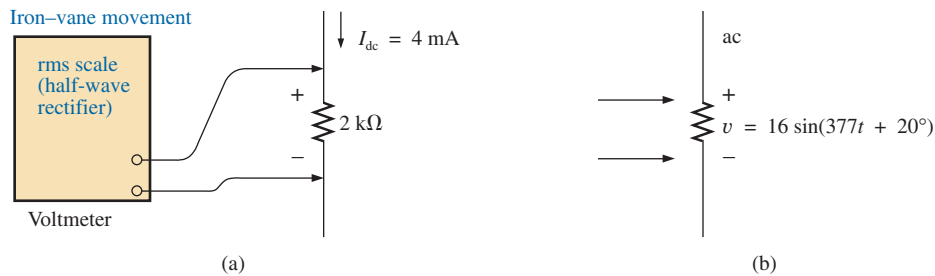

FIG. 13.111
*56. Determine the reading of the meter for each situation in Fig. 13.111.